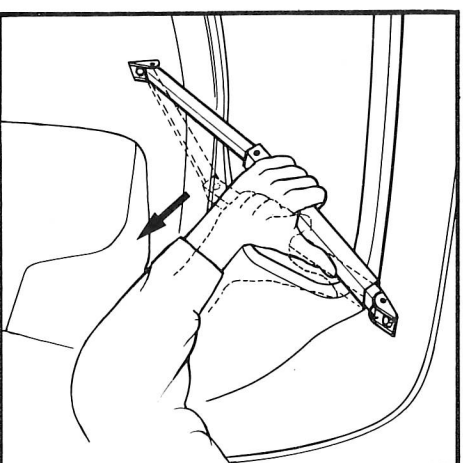
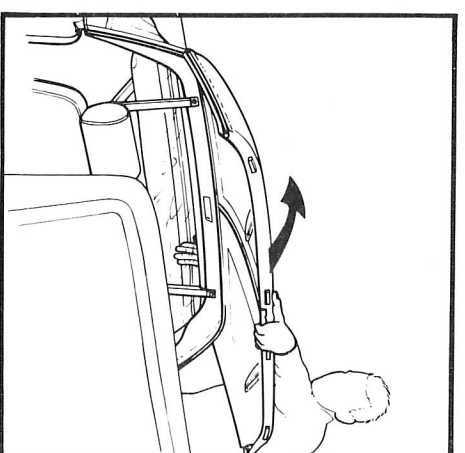

Fig. 19 Roof Stay Release.
Fig. 20 Rear Header Collapse.
a) Open both doors. Release the tension on both over-centre stays. Less force is required if the stay is held at the centre and pulled forwards. See Fig. 19 Hold both roof panels at the front on the join line. Bring back both the roof panels and the rear header together as one unit, to fold the rear header into the parcel shelf. See fig 20. If the rear header is to be in this position for a long period make sure the rear window is not unduly creased while the vehicle is in transit especially if something is stored on the rear parcel shelf.